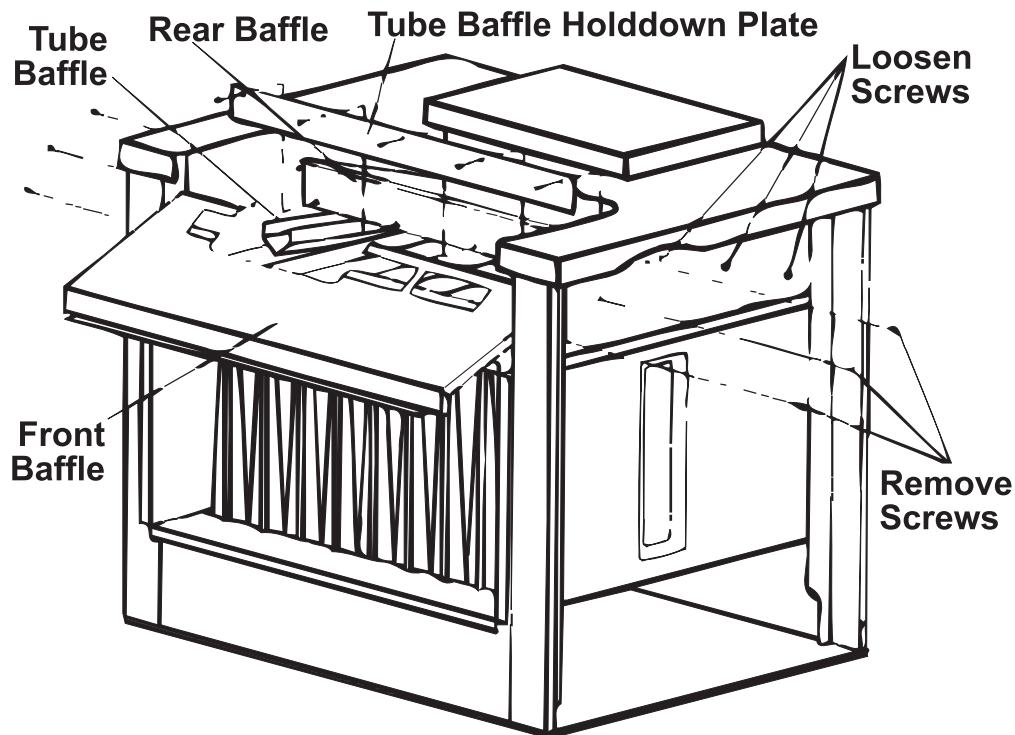

Figure 29. Heat Exchanger V-Baffles Removal
- b. Remove heat exchanger V-baffles (see Figure 29):